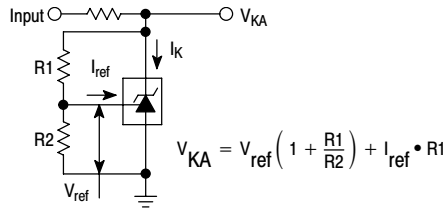

Figure 2. Test Circuit for $V_{KA} > V_{ref}$
- The dynamic impedance Z_{KA} is defined as: |Z_{KA}| = $\frac{\Delta V_{KA}}{\Delta I_K}$. When the device is programmed with two external resistors, R1 and R2, (refer to Figure 2) the total dynamic impedance of the circuit is defined as: |Z_{KA}'| ≈ |Z_{KA}| $\left(1 + \frac{R1}{R2} \right)$
6. The dynamic impedance Z_{KA} is defined as $|Z_{KA}| = \frac{\Delta V_{KA}}{\Delta I_K}$ When the device is programmed with two external resistors, R₁ and R₂, (refer to Figure 2) the total dynamic impedance of the circuit is defined as: $|Z_{KA}'| \approx |Z_{KA}| \left(1 + \frac{R_1}{R_2} \right)$